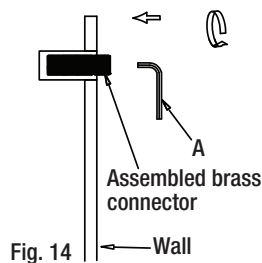

Fig. 14
- Using the provided Allen key (A), install the new assembled brass connector, (see Fig. 14), making sure that the end where you placed the teflon tape (where the check valve is) goes towards the wall where the old shower arm was.